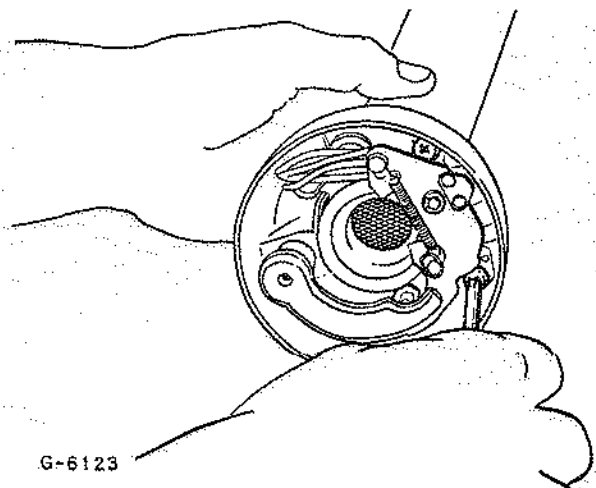

Fig. 4 - Switch Attaching Screws
3. Remove two cross recess screws which secure the switch to the flange cup (Fig. 4).